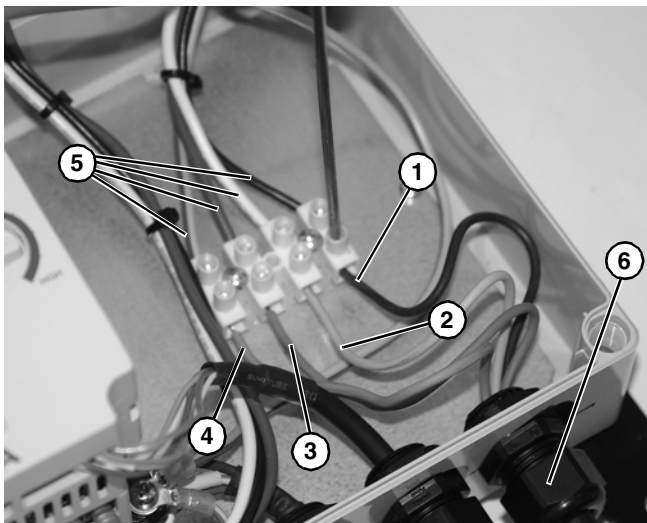

Figure 16
3. Connect black (**Figure 16, item 1**), white (**Figure 16, item 2**), red (**Figure 16, item 3**), and green (**Figure 16, item 4**) wires to mating color wires (**Figure 16, item 5**) on opposite end of wiring connector terminals.
4. Secure wires by tightening grip (**Figure 16, item 6**).